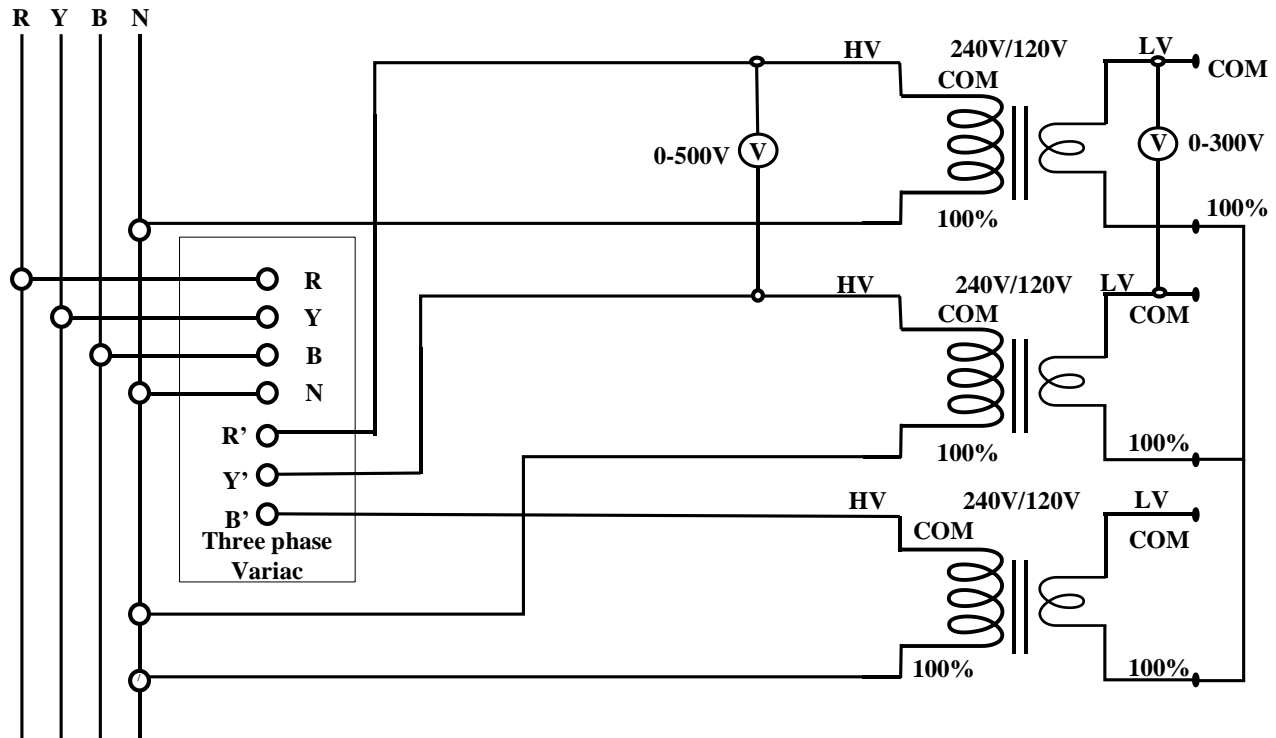

Fig 5: Star-Star configuration using three single phase transformers Lab set-up.
A more common configuration is delta-wye, as shown in Figure 5. With abc sequence, That is, the secondary line voltage leads the primary voltage by 30° , and is scaled by both the turns ratio and 1.732.
1. Make the connections as per the circuit diagram given in Fig. 5.